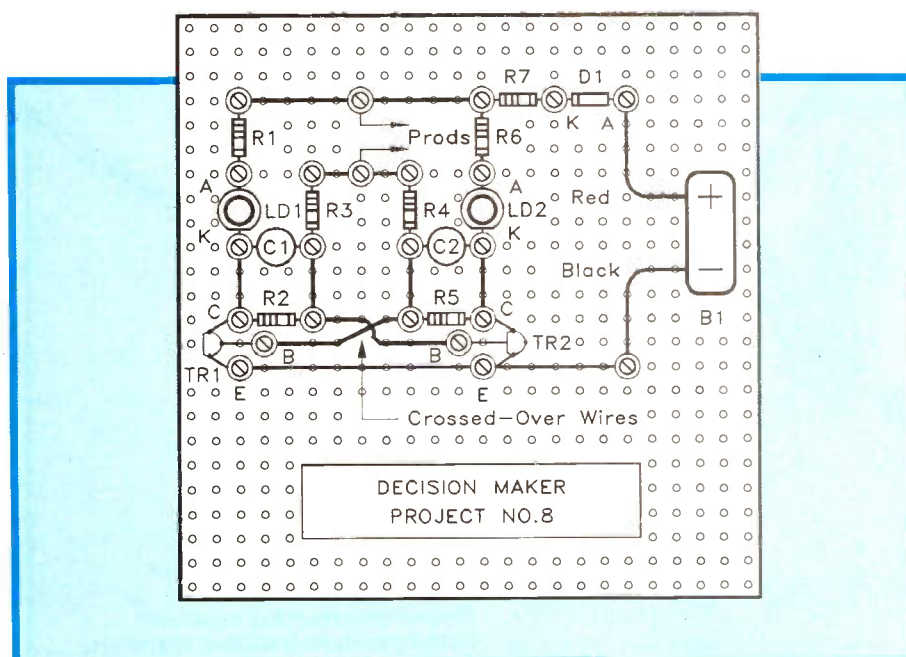

Figure 2. The component guide-sheet for the Decision Maker.
1. Cut out the component guide-sheet provided with the kit (which is a full-size copy of Figure 2), and glue it to the top of the plastic board. Paper glue or gum should be okay. Do not soak the paper with glue, a few small 'dabs' will do.